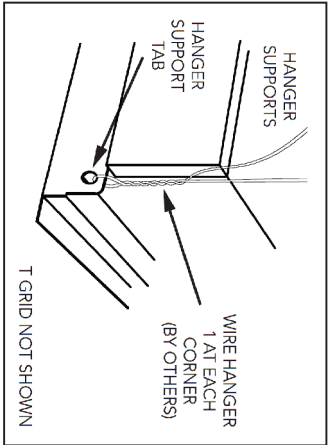

Figure 1
- The fixture is to be connected directly to the building structure, independent of the ceiling grid. Locate the hanger support tab at each corner of the fixture as shown in Figure 1. Use a hanger wire at all four support tabs to tie the fixture to the building structure. Use 12 gauge minimum hanger wire rated for such application. In addition, follow local building codes regarding required additional support of fixtures.